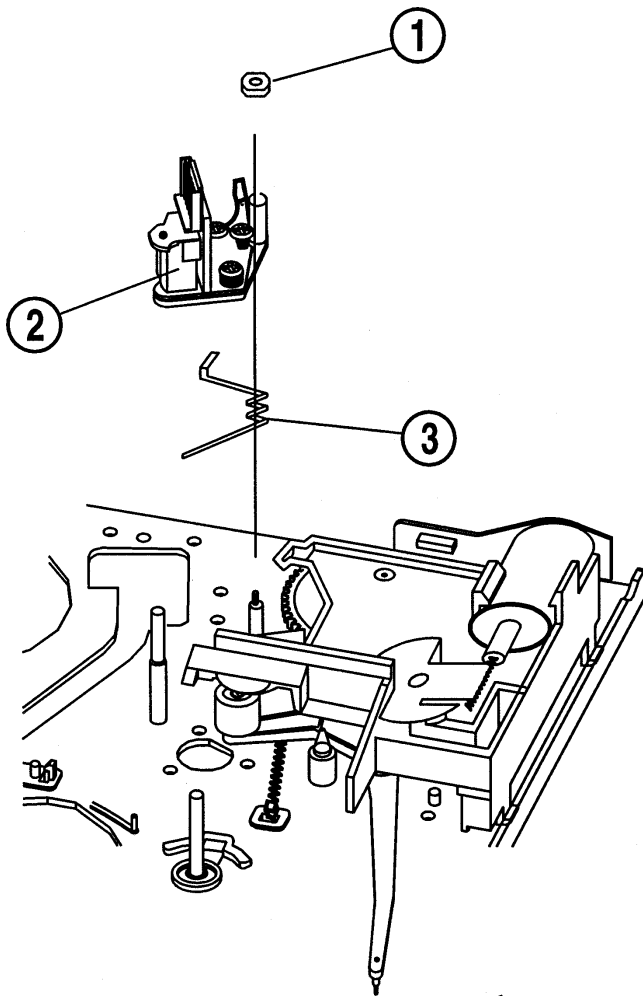

Fig. 19 A/C Head Assembly Removal
1. Remove one (1) nut hex from the A/C head assembly (2). (Fig. 19)